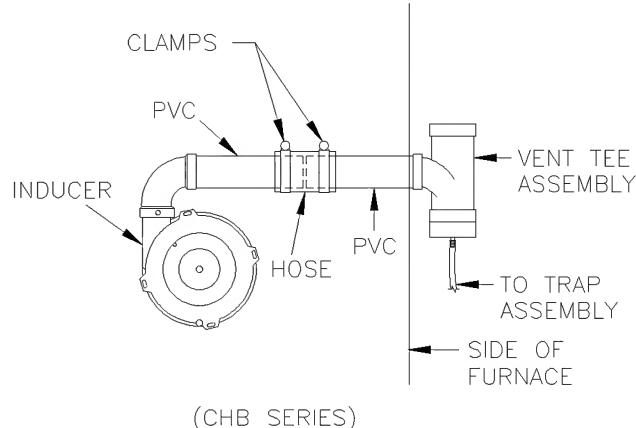

Figure 8A.
- a. Insert the end of the 2"dia. PVC elbow (2" dia. PVC tee assembly for CDB horizontal installations) onto the outlet of the inducer blower assembly. Measure the length of 2" dia. PVC pipe needed to clear the furnace side casing, while allowing for the 2-3/8" rubber radiator hose to be installed within the casing of the furnace. Cut the 2" dia. PVC measured lengths and be sure to allow sufficient length of pipe for connections. Refer to Figures 8A, 8B and 8C.